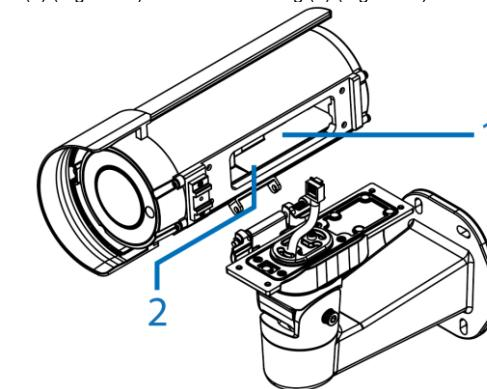

Figure 12
Note: The figure below indicates the location of the camera buttons and connections (1) (Figure 12) and Desiccant bag (2) (Figure 12) on the camera.